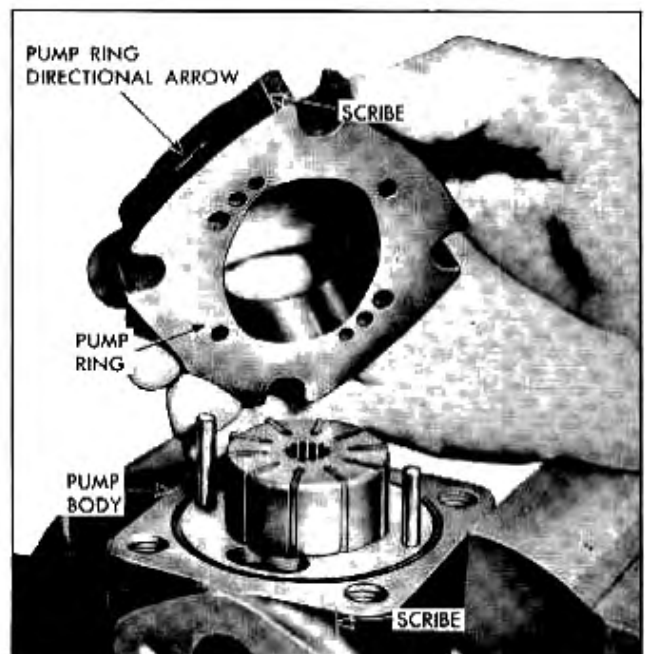

Fig. 9-74 Removing Pump Ring from Pump Body
9. Scribe position of pump ring in relation to pump body, and remove ring from dowel pins (Fig. 9-74). **NOTE:** Arrows on outer edge of pump ring point in direction of pump rotation.